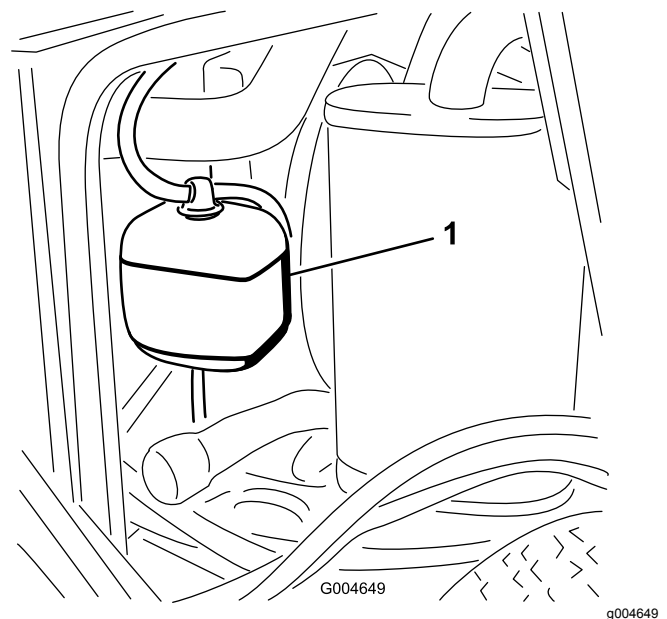

Figure 43
1. Check the level of the coolant in the expansion tank (Figure 43).